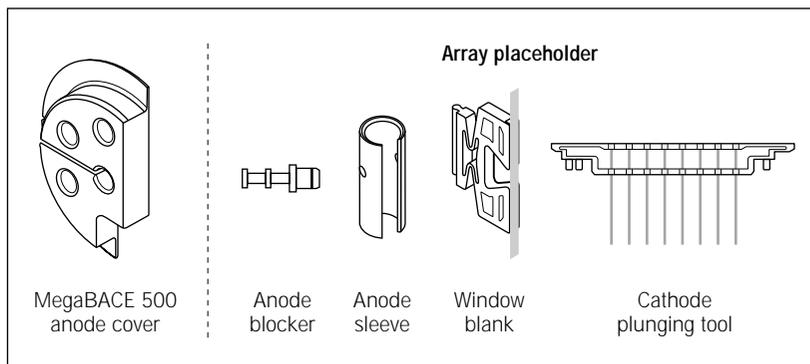

Figure 1-2. Additional components (MegaBACE 500 and flexible MegaBACE 1000 instruments only).
- **(MegaBACE 500 and flexible MegaBACE 1000 instruments only) Additional components**—MegaBACE 500 anode cover, and for both modes, array placeholder, which consists of an anode blocker, an anode sleeve, a window blank, and a cathode plunging tool (figure 1-2).